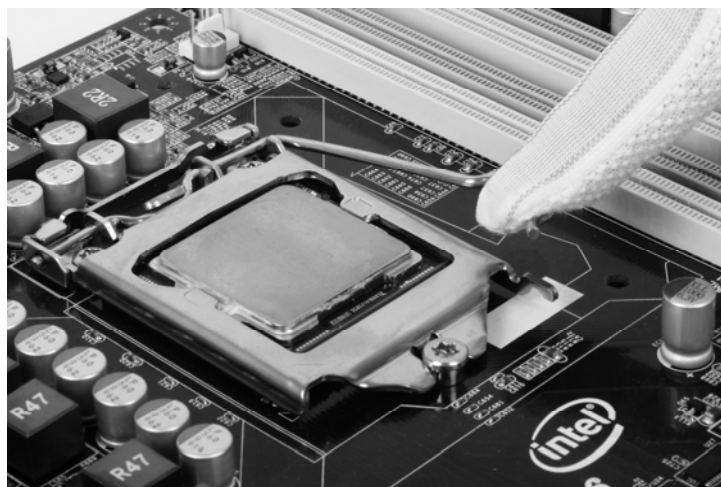

Fig 4
1.4 Input the CPU carefully; make sure the contact pins in socket and contact lands on CPU are matched. Close the cover, as shown in Fig 4